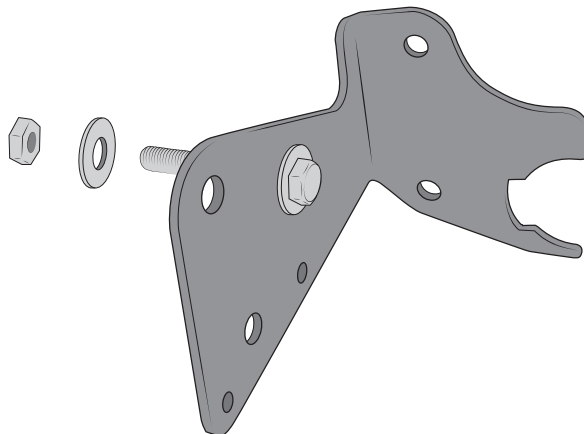

Figure 2
- D. Pre-assemble the second bracket as shown (Fig. 2) with the supplied bolt, washers, and free-spinning nut.